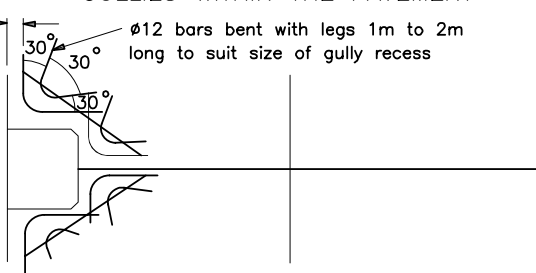

FIG. 1 JOINT WITHIN GULLY DIMENSION
5. Normal joint spacings may be adjusted by up to 1m so that the manhole is astride or adjacent to the joint as shown in figs 1 & 2. If this is not possible an extra joint shall be formed in that lane at the manhole position as in fig 3, and that joint shall be a warping joint.